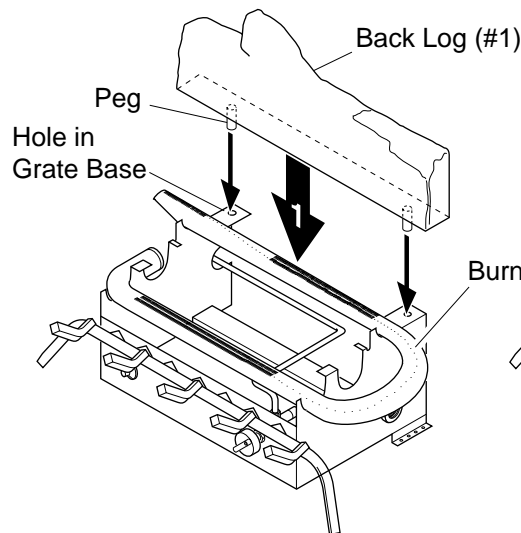

Figure 16 - Installing Back Log (#1)
1. Locate pegs on the bottom of back log (#1). Slide these pegs into the holes in the grate base behind the burner (see Figure 16).